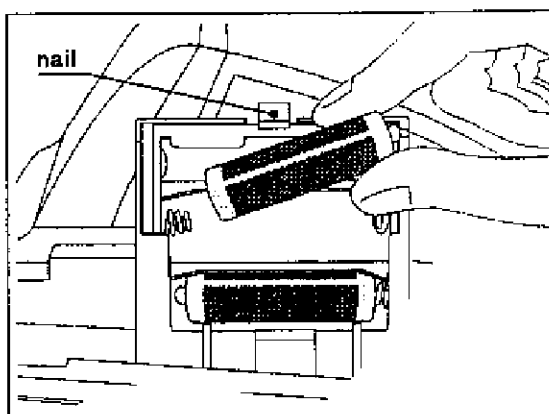

Fig.1
4. Position three fresh SUM-3(UM-3) batteries, making sure that the positive (+) and negative (-) poles are aligned correctly. (See. Fig 1)